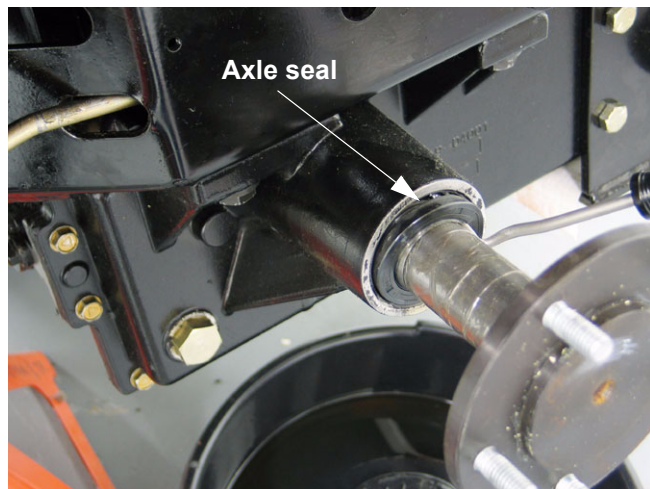

Figure 1.9
- 1.9. With the left rear wheel removed, the left axle seal can be easily reached and removed. See Figure 1.9.